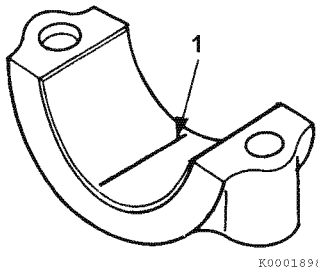

Figure 6-101
- Place a piece of PLASTIGAGE® (**Figure 6-101, (1)**) along the full width of the bearing insert.